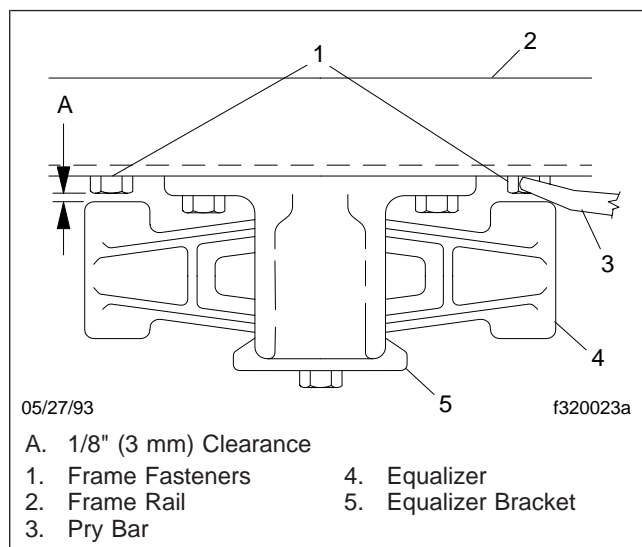

Fig. 4, Top View of the Equalizer
7. With the vehicle unloaded, attempt to move the equalizer side to side, using a pry bar between the equalizer and frame rail. Apply hand pressure only. See **Fig. 4**. If clearance between the equalizer assembly and any frame component or fastener is less than 1/8 inch (3 mm), replace the equalizer bushings. See **Group 32** of the *Heavy-Duty Trucks Service Manual* for instructions.